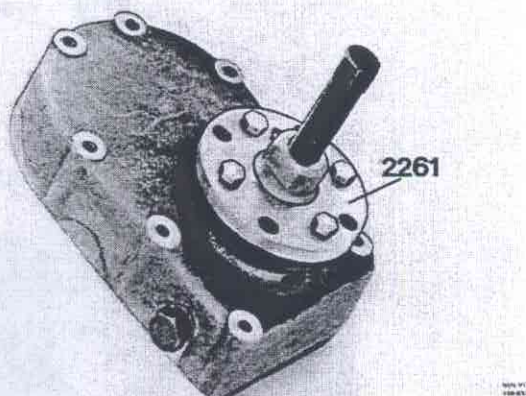

Fig. 48-9. Removing flange
2. Pull off the flange using 2261, see Fig. 48-9.